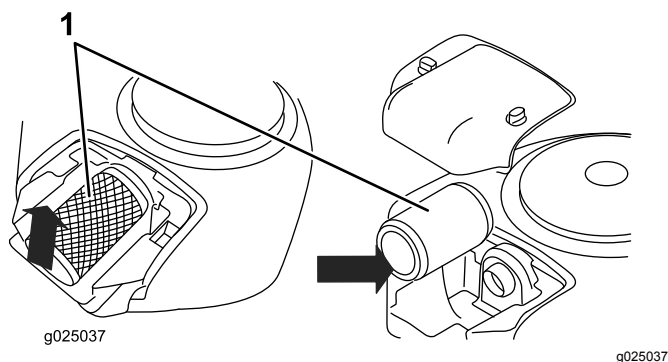

Figure 23
1. Knob (2)
3. Lift the end of the filter to remove the filter (Figure 23).